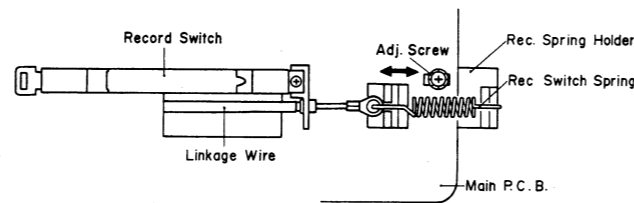

Fig. 5.15.1
- (1) Set the N-580 in stop mode.
- (2) Loosen the screw of the Record Spring Holder, and shift the Record Spring Holder in order to remove the looseness of the Linkage Wire as shown in Fig. 5.15.1. Then tighten the screws for fixing the Record Spring Holder. (In this case, the Record Switch should be positioned at play side. If on the record position, it will be defective.)